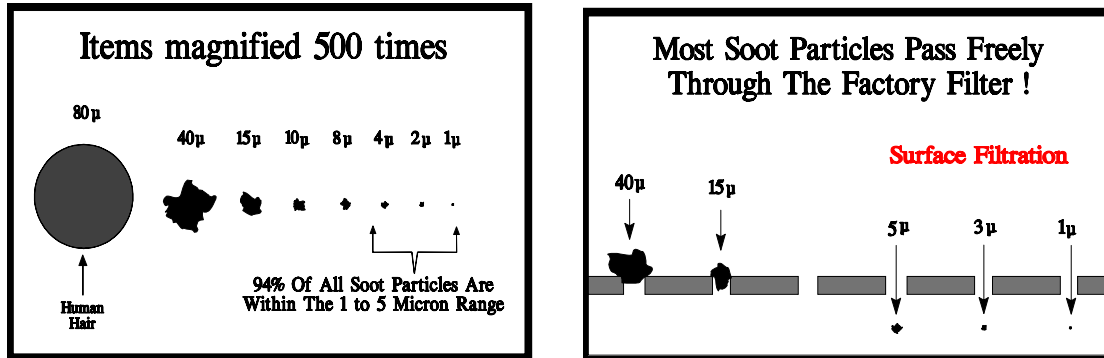

FIGURE 2 Filtration of soot particles.
3. the factory full-flow filters are only effective in controlling particles 15 microns and larger (see Figure 2). A UF by-pass filter can be added to reduce normal wear and thereby extend the life of the equipment. If an engine runs on clean oil 100 percent of the time, the engine will last longer. With UF by-pass filters, wear can be reduced from 25 to 50 percent. In cases in which equipment is operating in adverse environmental conditions, such as dusty conditions, the use of UF by-pass filters can reduce wear up to 400 percent. The fact that UF by-pass filters drastically reduce wear has been well documented by SAE.